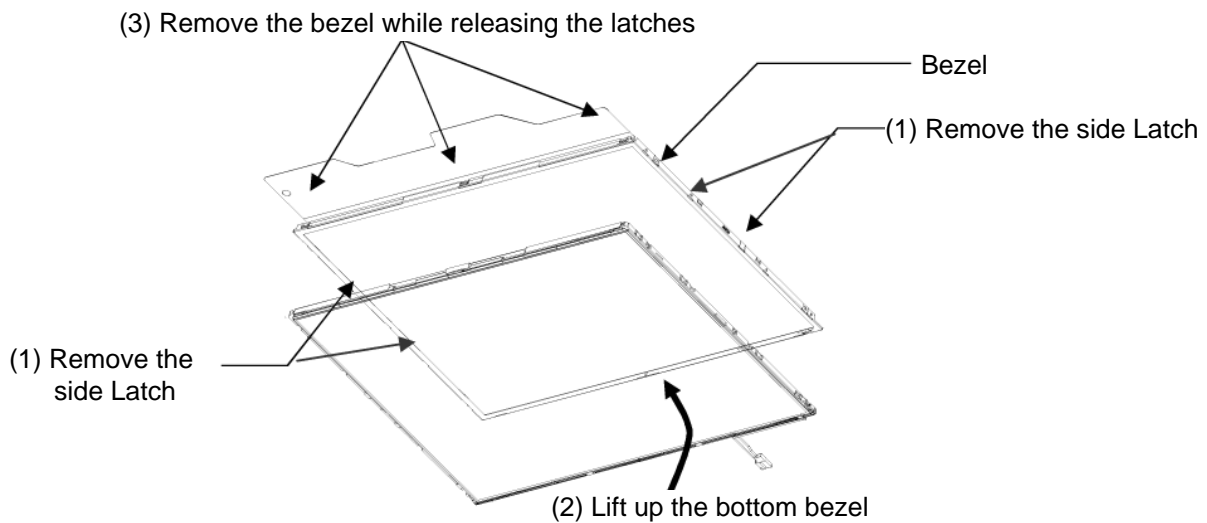

Figure 4-55 Replacing 14.1 Inch TMD fluorescent lamp (SXGA+) (3)
2. Release the four latches of the bezel and frame (1) in figure 4-55. Lift up the bezel from the bottom side (FL lamp side) (2) in figure 4-55. Remove the bezel while releasing the three latches (3) in figure 4-55. (Bezel will be reused.)